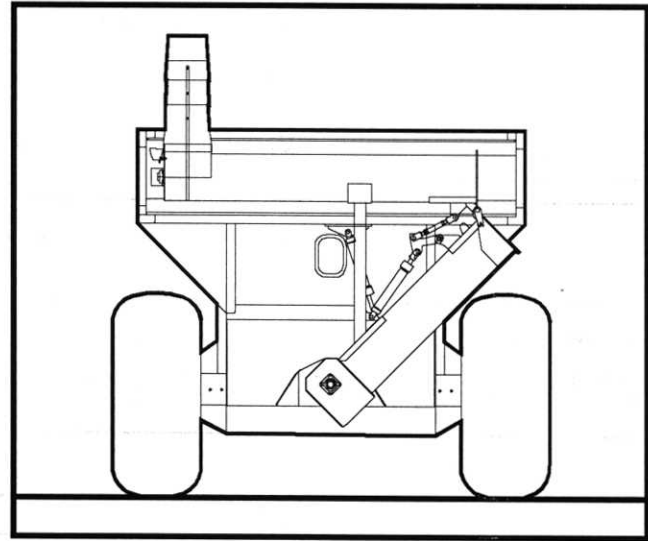

FIGURE 8.
2. **Refer to Figure 8.** Fully raise and fold pivot auger into transport position.